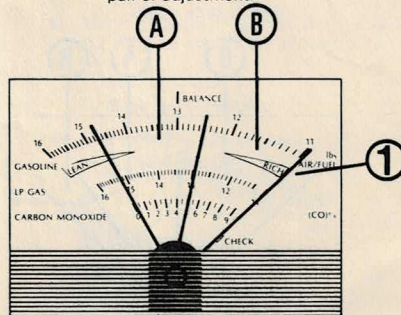

Figure 7
1. Pointer steady between 13.0 - 14.4 approx. (See Figure 7 "a").
- A. Set up and connect tester and tachometer. Let engine idle. Record CO% from the bottom scale (1) (See Figure 7).